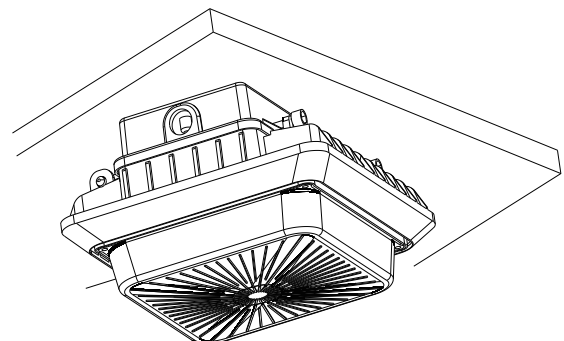

Figure 8
7. Push all wires back into the junction box. Push the Luminaire up and fix it with the Junction Box with the removed Screws (2). See Figure 8.